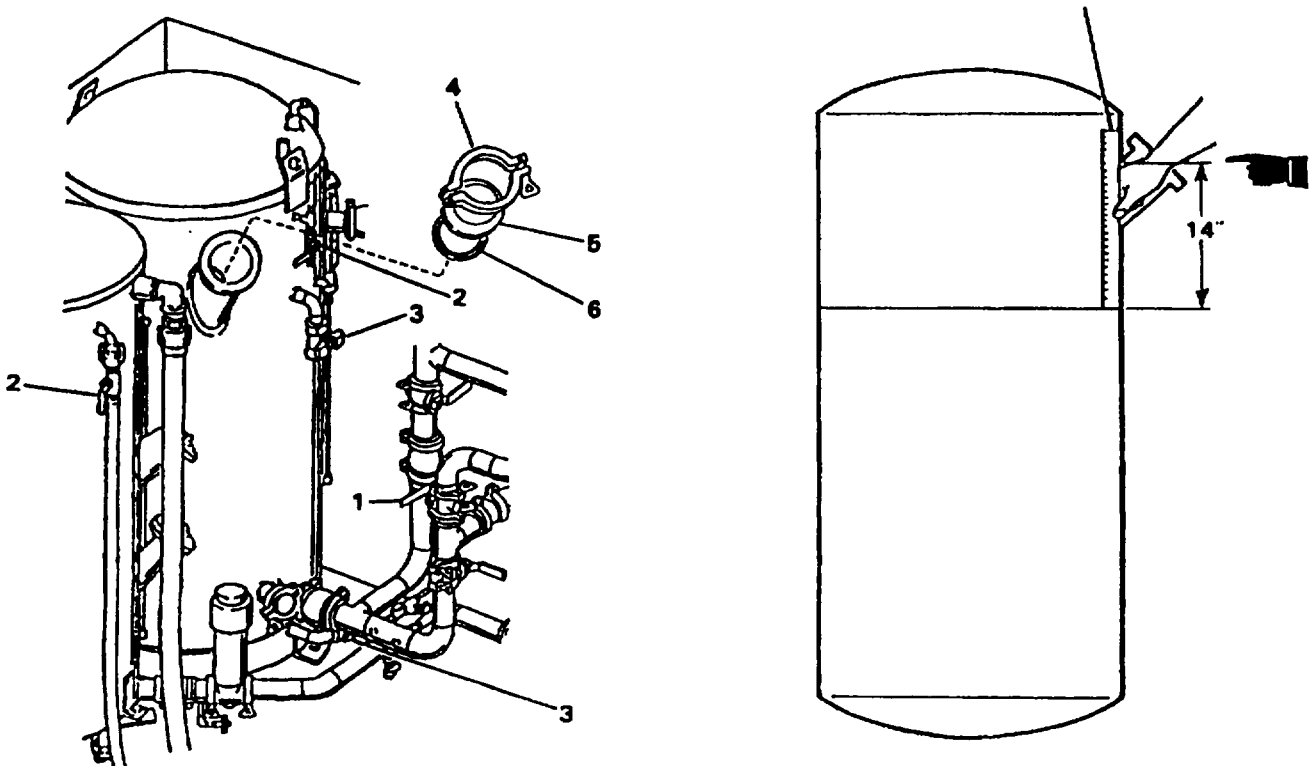

Figure 3-10. Service Media Filter
- a. Close CARTRIDGE FILTER BLOCK valve (1, Figure 3-10).
- b. Open MEDIA FILTER VENT valve (2).
- c. Open MEDIA FILTER DRAIN valve (3).
- d. Remove clamp (4).
- e. Remove cap (5) and gasket (6).
- f. Measure from top of access hole to top of media bed, using steel rule (7).